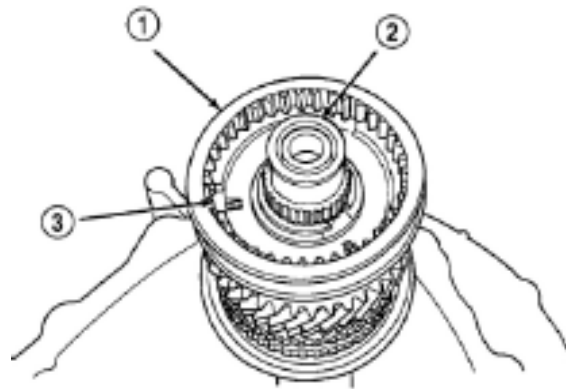

Figure 3-161 Combination set of synchronizer
(4) Cover the combination set on gear hub and press the ball, then put the combination set in place carefully (Figure 3-161).